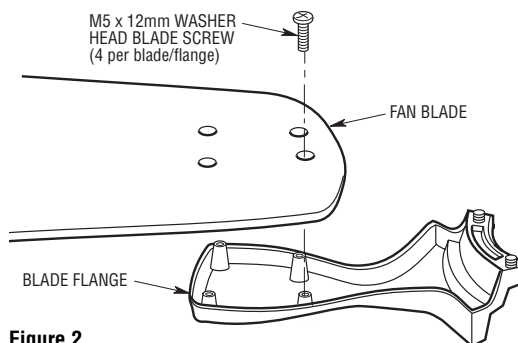

Figure 2
2. Mount blade flanges (supplied with fan) to fan blades (sold separately) using four M5 x 12mm washer head blade screws (supplied with fan) (Figure 2).